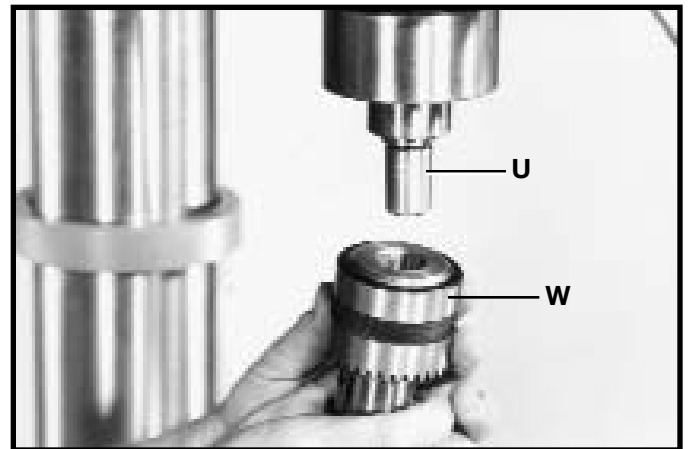

Fig. 14
14. Make certain the bottom taper of the spindle adapter (U) Fig. 14, and the tapered hole in the chuck (W) are clean and push the chuck up onto the spindle adapter (U) as far as it will go. **NOTE:** Household oven cleaner can effectively remove any substance from the spindle and chuck; however, carefully follow the manufacturer's safety rules concerning its use.